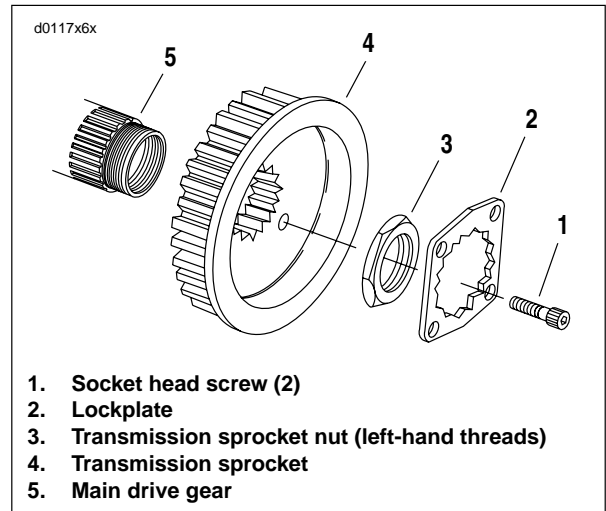

Figure 6-101. Transmission Sprocket
- See Figure 6-101. Place transmission in first gear. Remove two socket head screws (1) and lockplate (2).
1. See Figure 6-101. Install transmission sprocket (4) with secondary drive belt onto main drive gear (5).
3. Apply a few drops of LOCTITE 271 (red) to the **left-hand threads** of transmission sprocket nut (3) and lightly coat the washer-faced side with clean H-D 20W50 engine oil. Wipe off any excess oil.
9. See Figure 6-101. Install lockplate over nut so that two of lockplate's four drilled holes (diagonally opposite) align with sprocket's two tapped holes.
10. See Figure 6-101. Install two socket head screws through aligned holes of lockplate and into tapped holes of sprocket. Tighten to 90-110 **in-lbs** (10.2-12.4 Nm).
See Figure 6-101. The original equipment socket head screws (1) have thread-locking compound applied to them. Since this compound remains effective for about three removal/installation cycles, the original screws may be reused up to three times. After the third removal/installation cycle, replace both screws with **new** screws identical to the original.